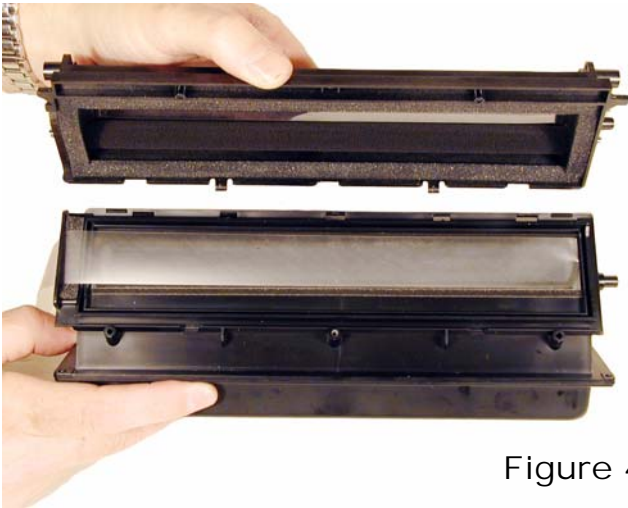

Figure 45
40) Slide the seal tab out the slot of the top cover. Set the three plastic tabs into their slots, and rotate the top cover down into place. Install the screw. Make sure the cover locks into place! Check the seam on the end of the hopper to be sure. See **Figs. 45 & 46**